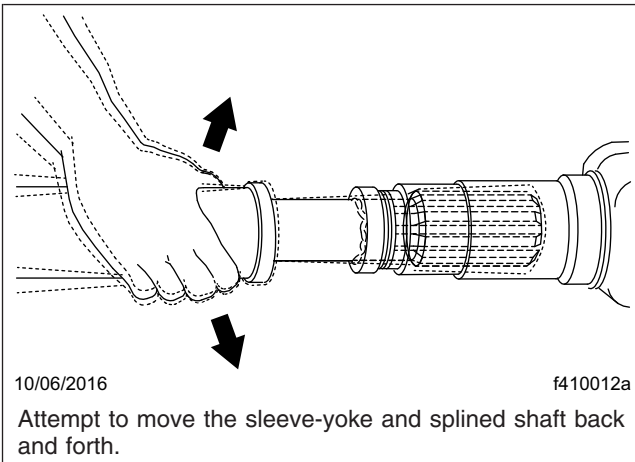

Fig. 3, Slip Joint Spline Wear Checking
6. Check slip joints for spline wear by moving the sleeve-yoke and splined shaft back and forth; see **Fig. 3**. If the slip joint can be twisted in a clockwise, or counterclockwise movement greater than 0.007 inch (0.18 mm), replace both the sleeve-yoke and the splined shaft.